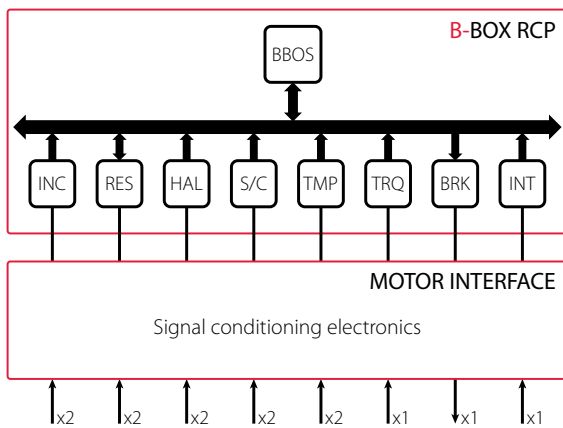

Fig. 4. Functional overview of the Motor Interface.
The Motor Interface is an extension of the B-Box RCP. As such, it provides the necessary signal conditioning electronics required by FPGA peripherals of the B-Box (refer to Fig. 4), as well as connectivity and power for external sensors. From a user perspective, resources from the Motor Interface are made available by the operating system (BBOS) as if they were fully built into the B-Box RCP. The Motor Interface is connected to the B-Box RCP on VHDCI inputs (B). Since the interface was designed for dual-motor setups, position and temperature measurements are duplicated and the machines are respectively labeled A and B.